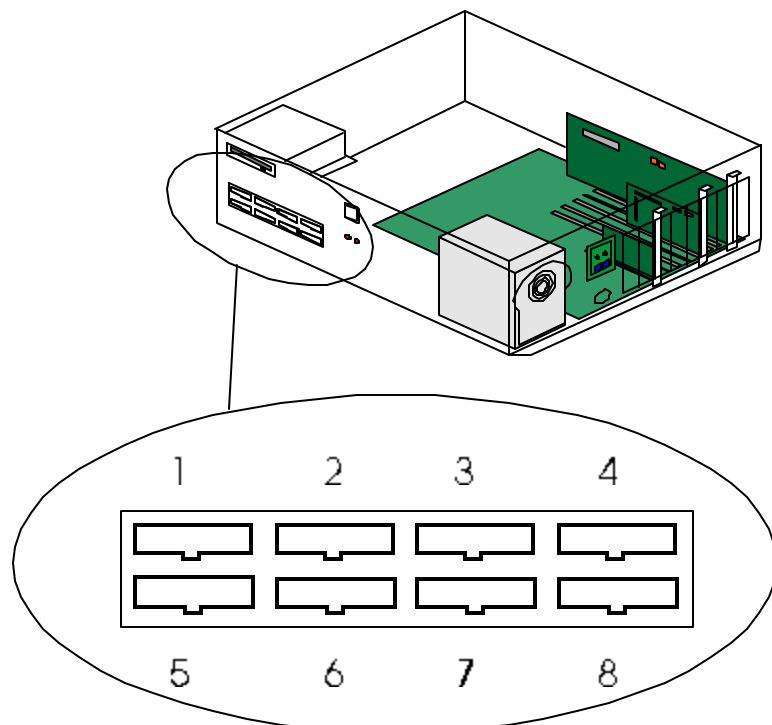

Figure 3: Conector card I/O port addressing.
The connector card has eight (8) I/O ports which act as interface between the I/O cards and the DAC card. Figure 3 shows the numerical order of the ports. Note that port 1 is the leftmost port, nearest to the floppy drive, and the port numbers increase from left to right. Port 5 is located on the second row right under port 1, and port 8 is the rightmost bottom port.